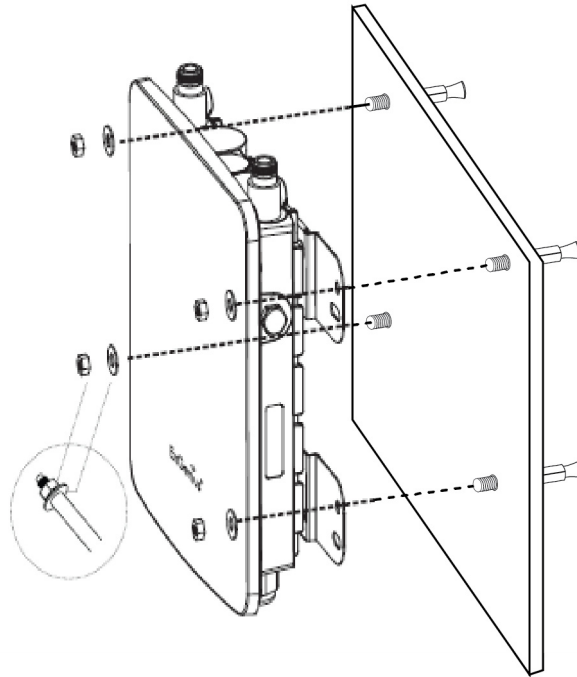

Figure 11. Installing to the Wall Using Bolts
6. Attach the nuts and washers to the bolts in the concrete wall to install the access point. See Figure 11.